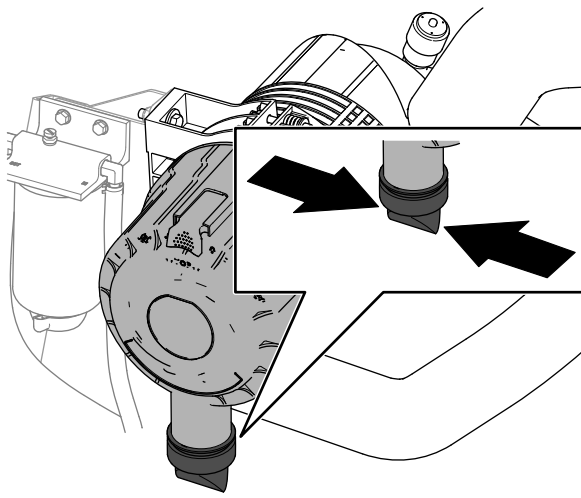

Figure 62
4. Squeeze the dust-ejector valve (Figure 62).